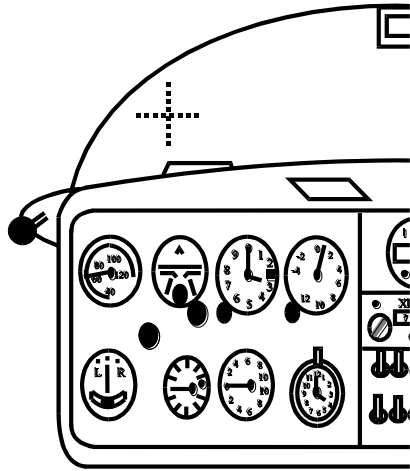

Fig 6. The view straight ahead from the left hand seat.
11. **Lookout and use of the visual horizon.** You should use visual judgment to assess changes in attitude and listen to the changes of airflow noise. Basic flying skills rely on the use of all of your senses. Do not depend on the instruments, but use them to confirm the visual cues you can see by looking at the horizon ahead and for making fine adjustments. Note that your view straight ahead is directly over the left hand edge of the loudspeaker grill. See fig 6.